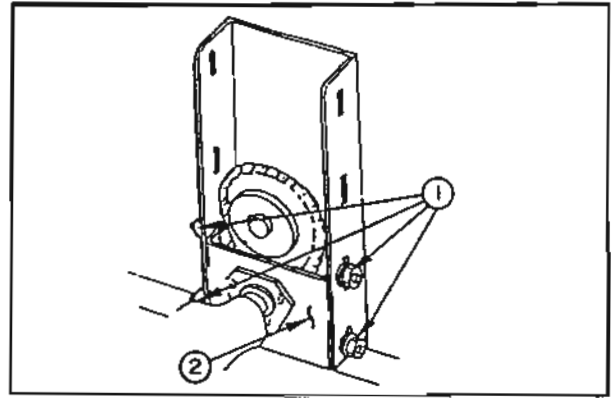

FIGURE 1
1. REDUCTION CHAIN ADJUSTMENT (Fig. 1)